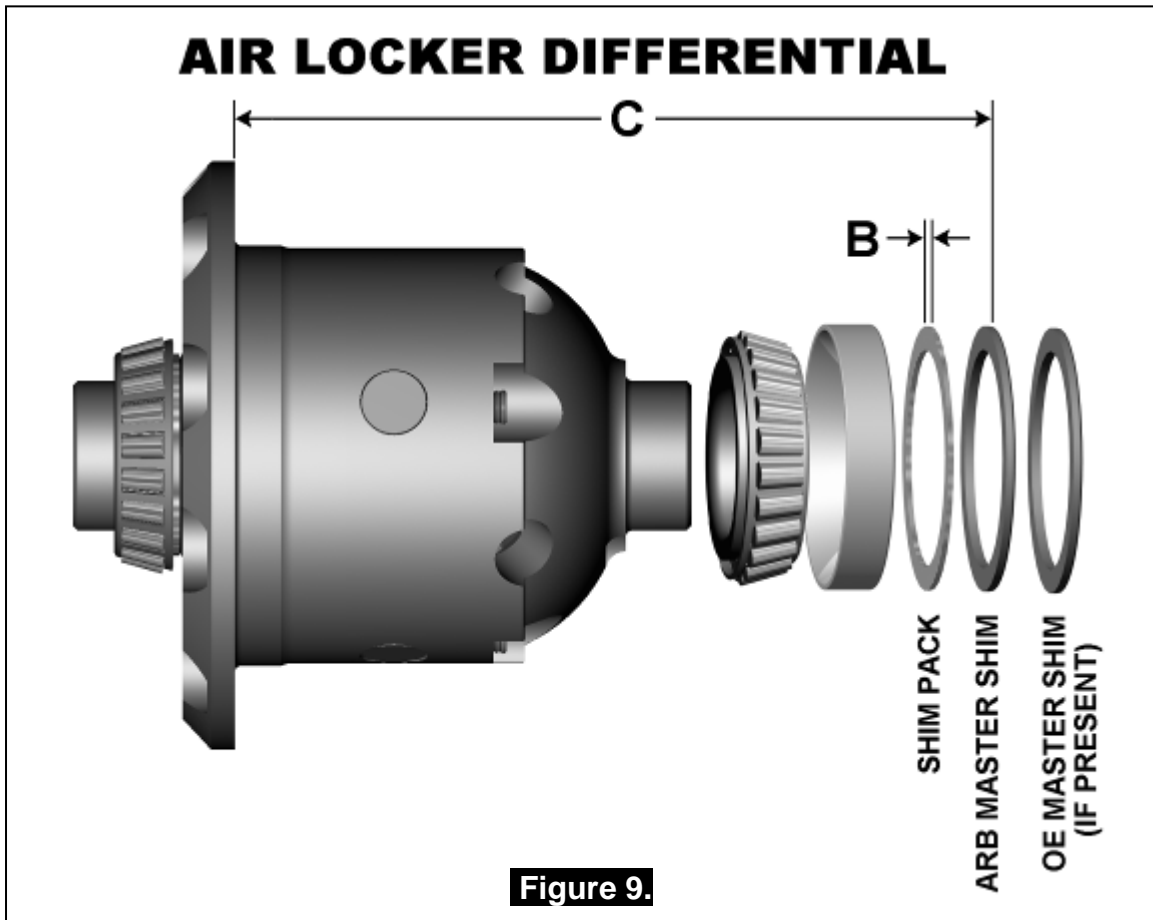

Figure 9.
- Assemble the new bearing cup and ARB master shim (supplied with your *Air Locker* kit) onto the right-hand side of the *Air Locker* (as shown in Fig. 9.) and measure the total distance 'C'.